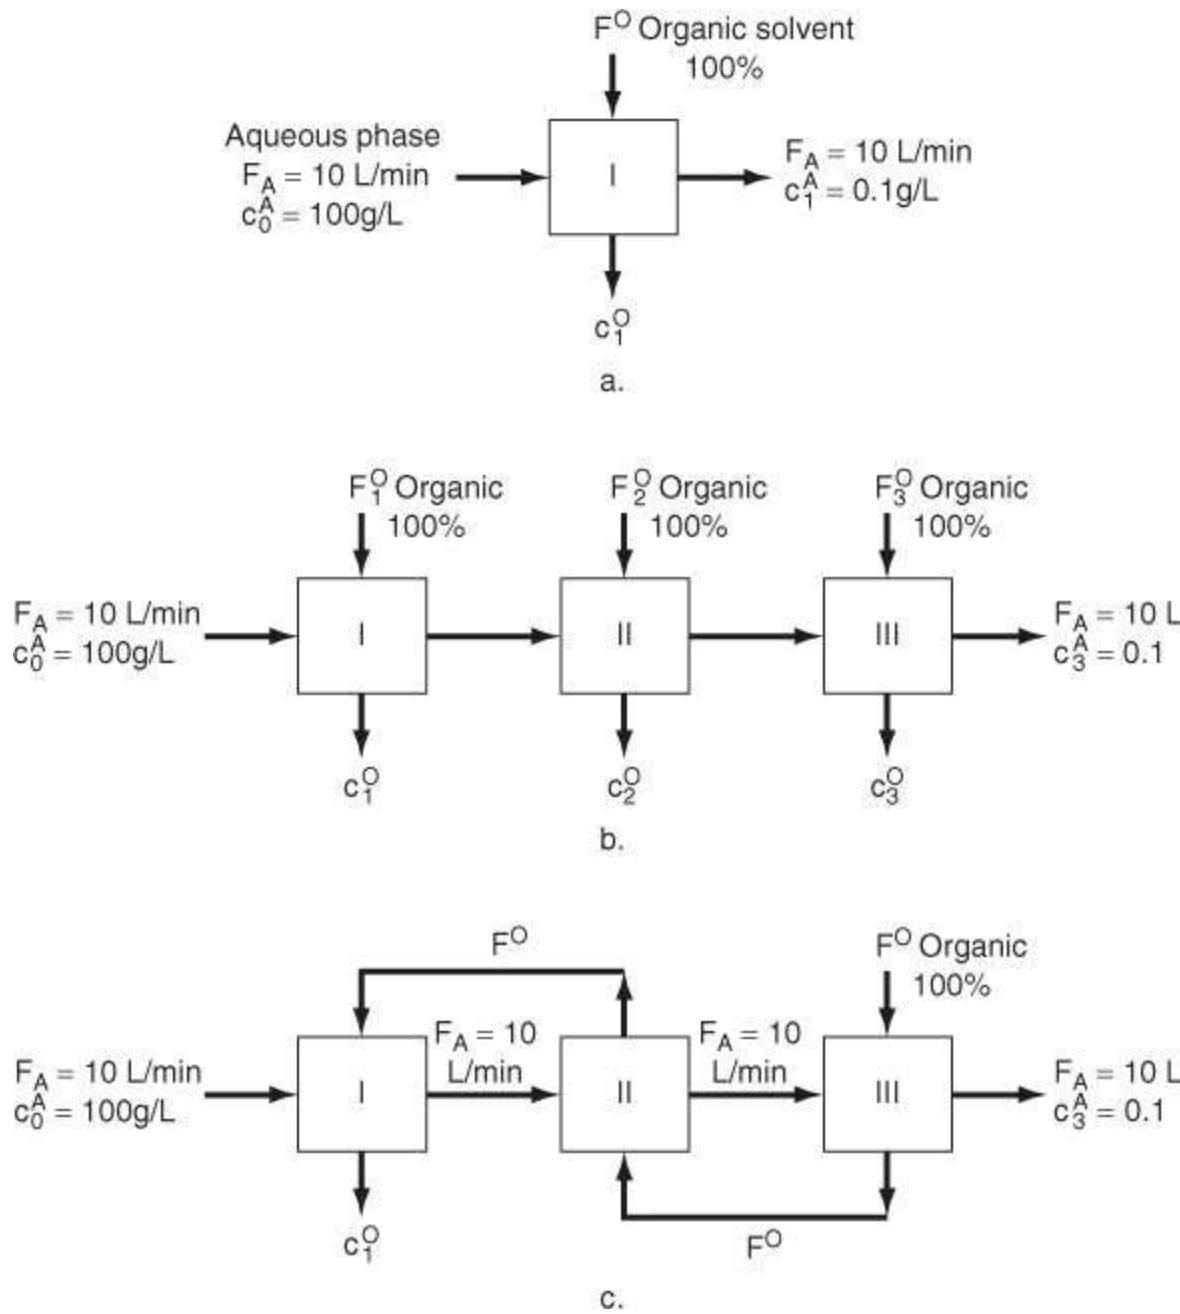

Figure P6.3.17
***6.3.17. This problem is based on the data of G. F. Payne [“Bioseparations of Traditional Fermentation Products,” in *Chemical Engineering Problems in Biotechnology*, edited by M. L. Schuler, American Institute of Chemical Engineers, New York (1989)]. Examine Figure P6.3.17. Three separation schemes are proposed to separate the desired fermentation products from the rest of the solution. Ten liters per minute of a broth containing 100 g/L of undesirable product are to be separated so that the concentration in the exit waste stream is reduced to (not more than) 0.1 g/L. Which of the three flowsheets requires the least fresh pure organic solvent? Ignore any possible density changes in the solutions. Use equal values of the organic solvent in Figure P6.3.17b, that is, $F_1^o + F_2^o + F_3^o = F^o$. The relation between the concentration of the undesirable material in